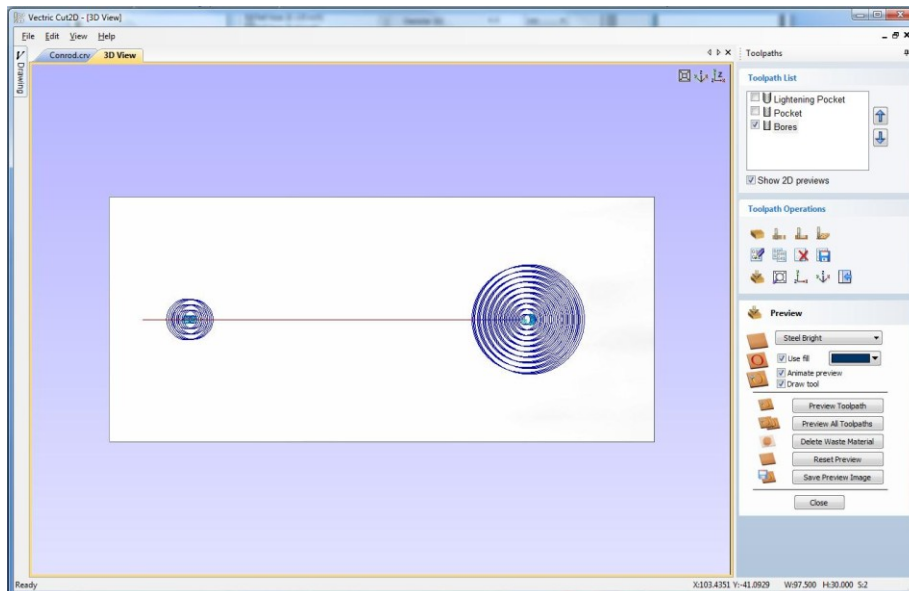

Figure 22. 3D View showing Toolpaths & Material
11. Click the **Calculate** button and the resulting toolpath will automatically be drawn in the **3D view** and the **Preview job** form opened, as shown below in Figure 22.